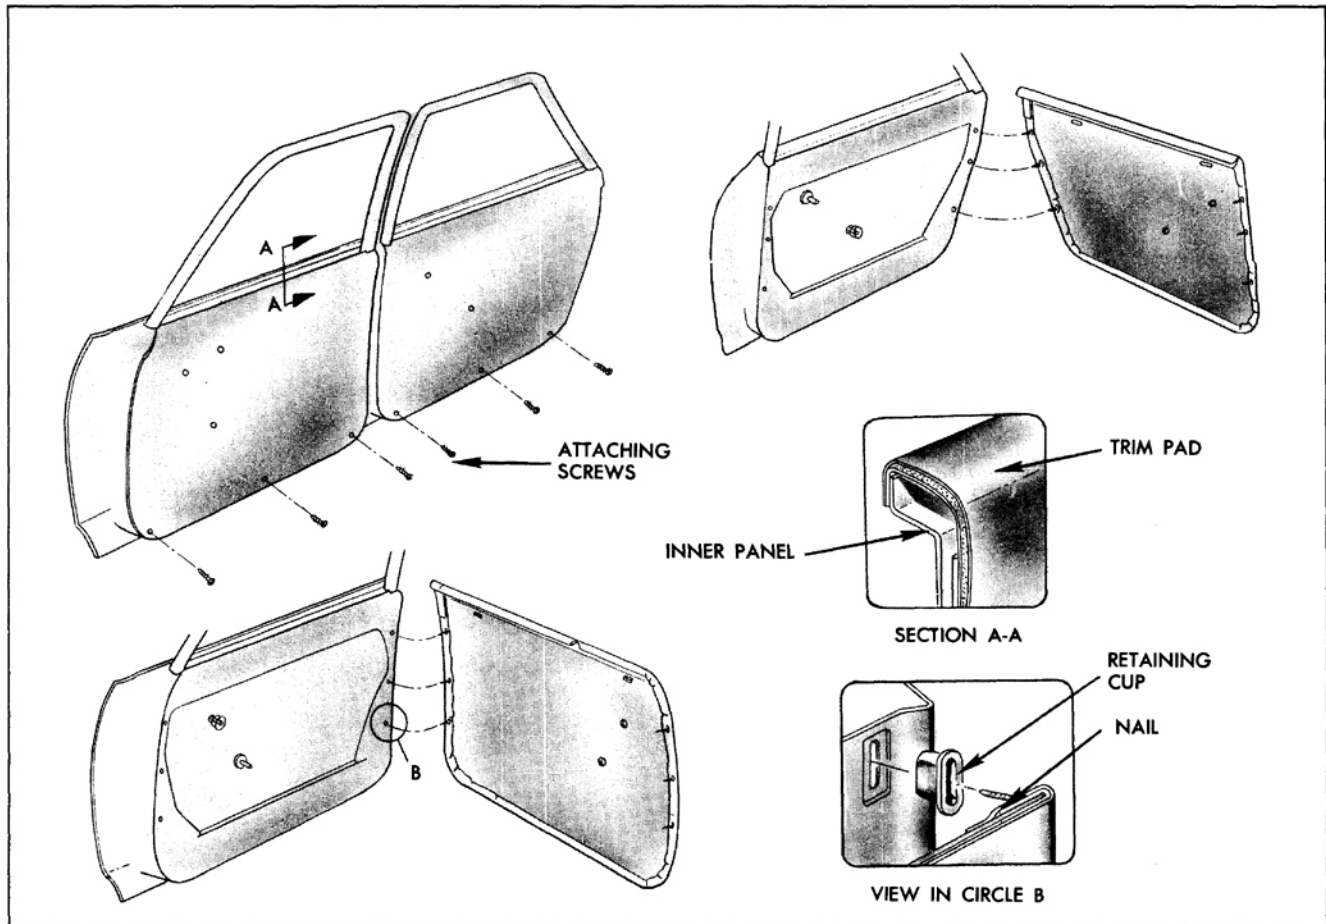

Fig. 16-320 Door Trim Pads (Hang-On Type)
4. Starting at bottom of trim pad, carefully insert Tool J-6335, or a suitable flat-bladed tool, between door trim assembly and door inner panel at retaining nail locations and disengage nails from retainers. Remove door trim pad from door. (Fig. 16-320)